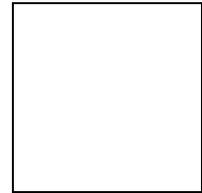

Figure 13
- Install the motor tension rod as shown in Figure 13. Once threaded in, lock into place with the jam nut A.